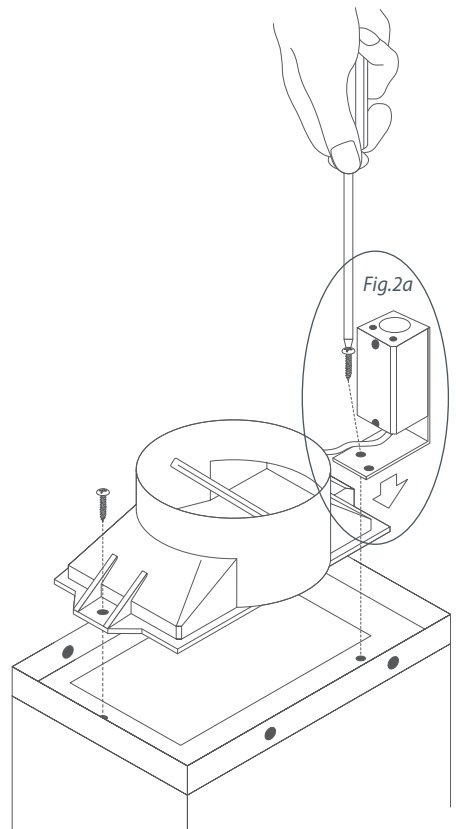

Fig.2 Connect the outlet adapter to the exhaust duct
- 2 Connect the outlet adapter supplied with the hood (6" diameter) to an exhaust duct connected directly to the outside (Fig.2).